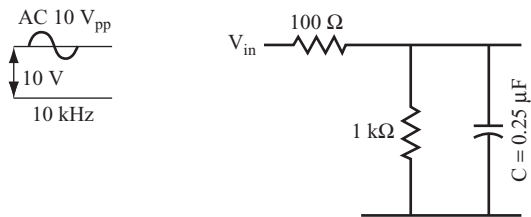

FIGURE 6.58
6. Use the circuit shown in Figure 6.58.